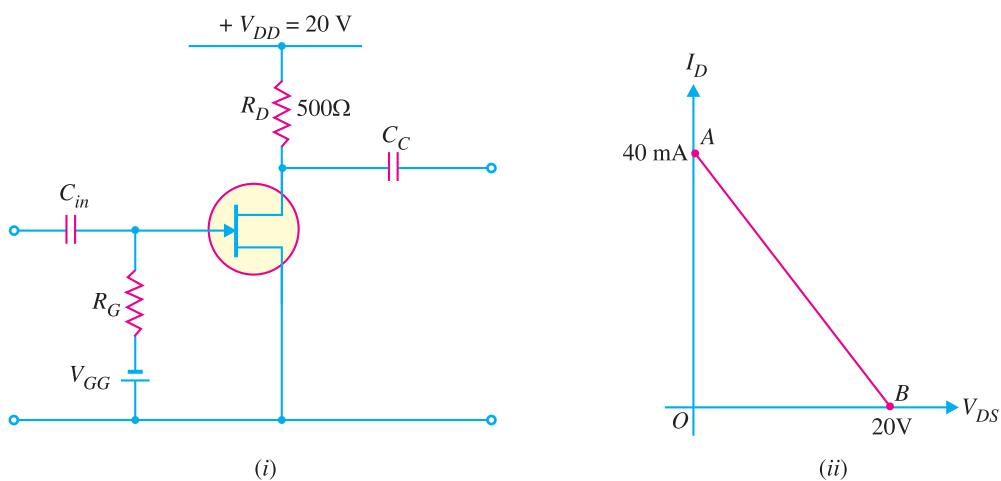

Fig. 19.35
**Example 19.23.** Draw the d.c. load line for the JFET amplifier shown in Fig. 19.35 (i).